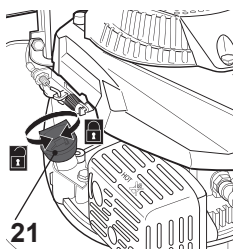

Fig. 9
- Unlock and remove the oil tank cap (21) (Fig. 9).